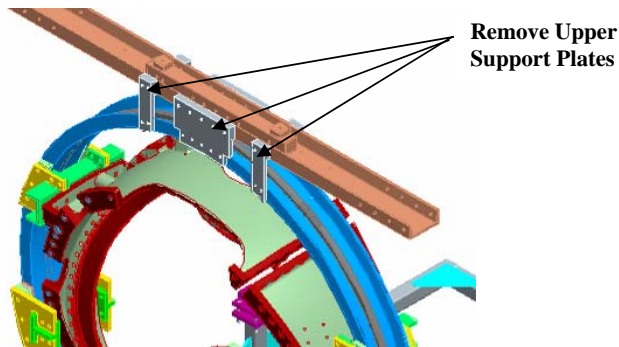

Figure 2- Upper Support Plates
6.3.1 Install the upper support plates that secure the support ring to the support/lift beam. This operation must be verified prior to proceeding. See Figure 2- Upper Support Plates
- 6.4.6 Remove the upper support plates between the support ring and lift beam. This operation must be verified prior to operating turning fixture. [See Figure 2- Upper Support Plates]